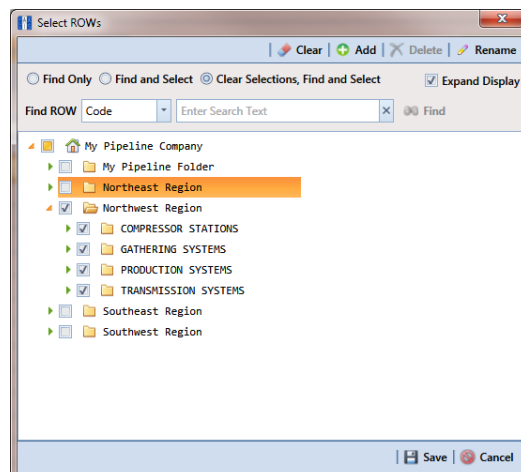

Figure 14-2. Select ROWs
- 1 Select the pipeline segments you want to work with in the *Select ROWs* window. Click the **Select ROWs** button  to open the *Select ROWs* window and then select one or more pipeline segments. Click  **Save** to close the window (Figure 14-2).
- 1 Select the pipeline segment(s) you want to work with in the *Select ROWs* window (Figure 14-2, page 615).